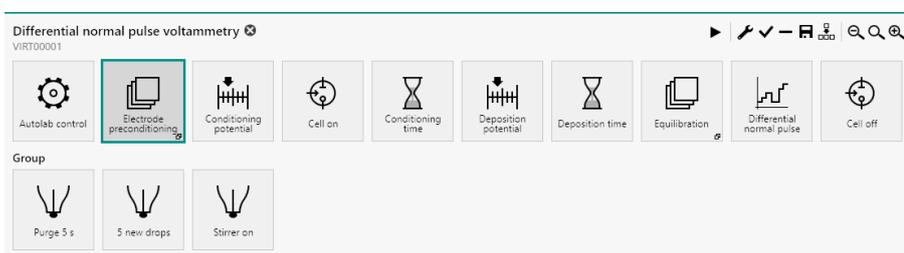

Figure 633 The Electrode preconditioning group
- **Electrode preconditioning:** this command group is used to create new mercury drops at the beginning of the procedure. The commands in this group are used to purge the solution for the specified duration, create the specified number of new drops and switch the stirrer on (see Figure 633, page 528).